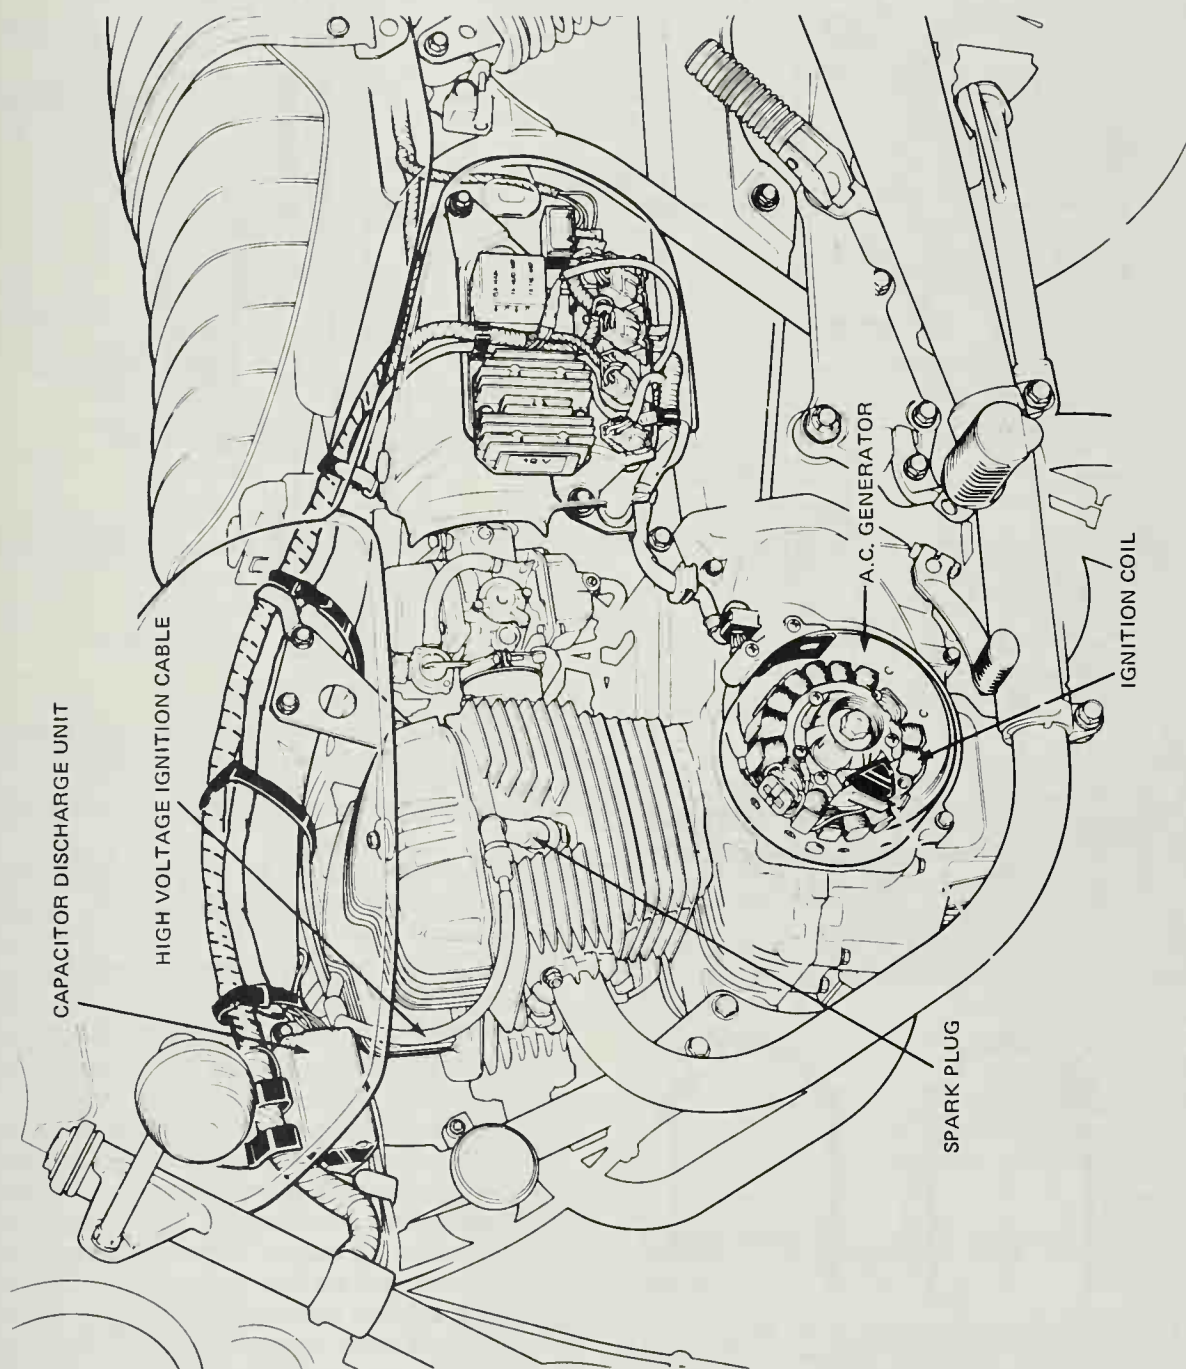

Figure 17-11. Motorcycle with a CD system. (Honda Motor Co., Ltd.)
The electronic switch remains open while the generator charges the capacitor. When the switch closes, the circuit is completed, grounding one end of the capacitor through the switch, the other end through the ignition coil primary windings (8). The capacitor then discharges through the ignition coil primary windings, causing the rapid buildup of a magnetic field which induces high voltage in the ignition coil secondary windings (9), that flows through the spark plug (10). The location of the CD components on the motorcycle are shown in Figure 17-11.
The cable-to-spark-plug connection is shown in Figure 17-11.